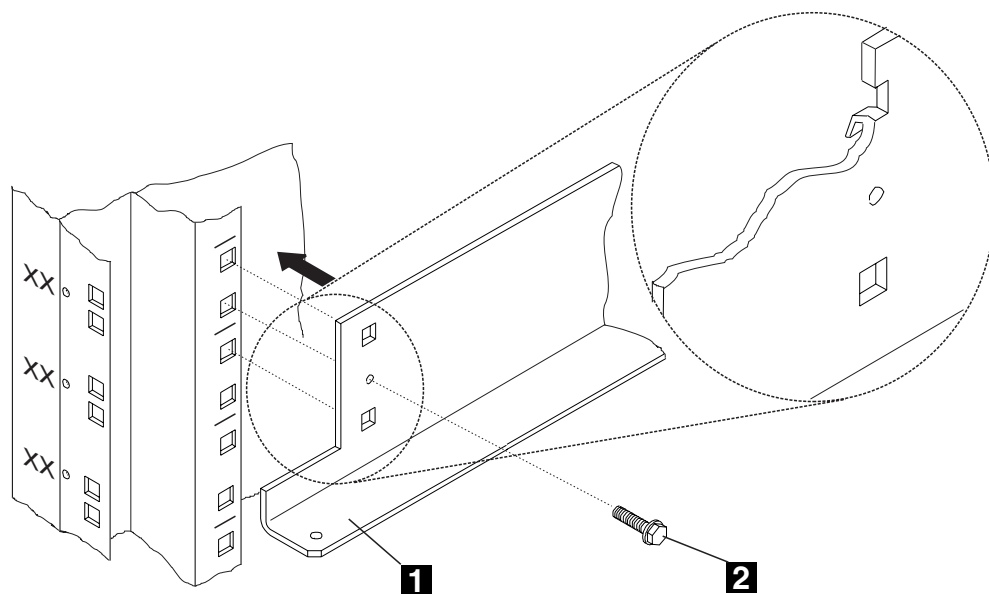

Figure 4. Installing Brackets (PN 58G5752)
- 4. For the display or the Service Processor, install two brackets **1** (PN 58G5752) and secure using four screws (PN 2665527) (see Figure 4).